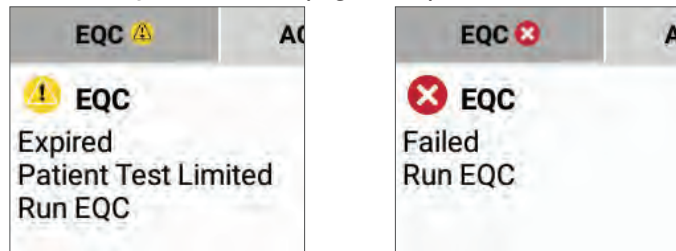

Figure 61: LQC and Patient Testing is Not Allowed
- If the EQC tab displays  (EQC Interval Expired) or , the EQC Interval has expired or the previous EQC test failed (Figure 61).